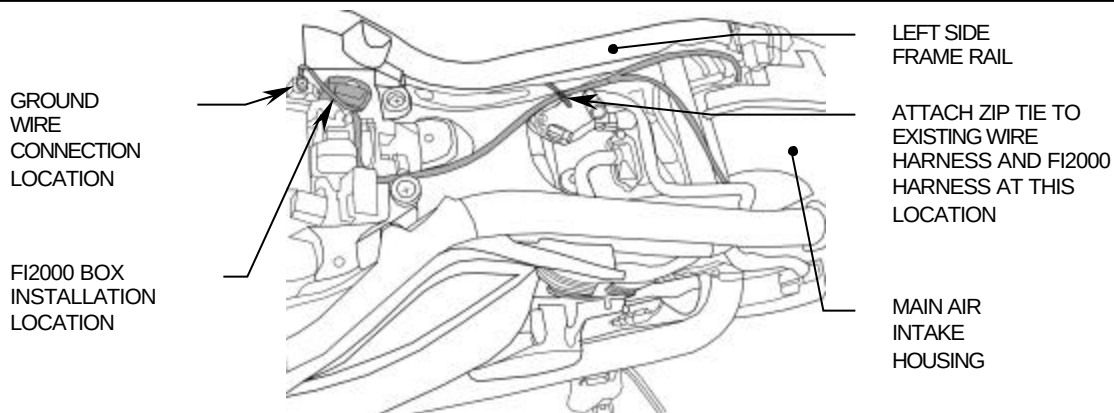

FIGURE 3: Fi2000 ECU & HARNESS INSTALLATION LOCATION AND ROUTING
4. Re-install the air filter housings, routing the left side harness up and over the air intake boot, then tighten the air boot clamps. Ziptie the Fi2000 harness to the main bike harness and Velcro the Fi2000 control module as shown in Figure 3.
6. Remove the door from the Fi2000 module to expose the LED's. Verify the wire connections by, (1), turning on the ignition while watching the 3 LED's. They will all light up for a few seconds, and then go off. This is correct. If there are no lights visible, make sure the side stand is up, bike is in neutral, clutch is in and handlebar engine switch is set to run. If there are still no lights visible, re-check that all connectors are fully engaged and the ground wire is connected correctly.